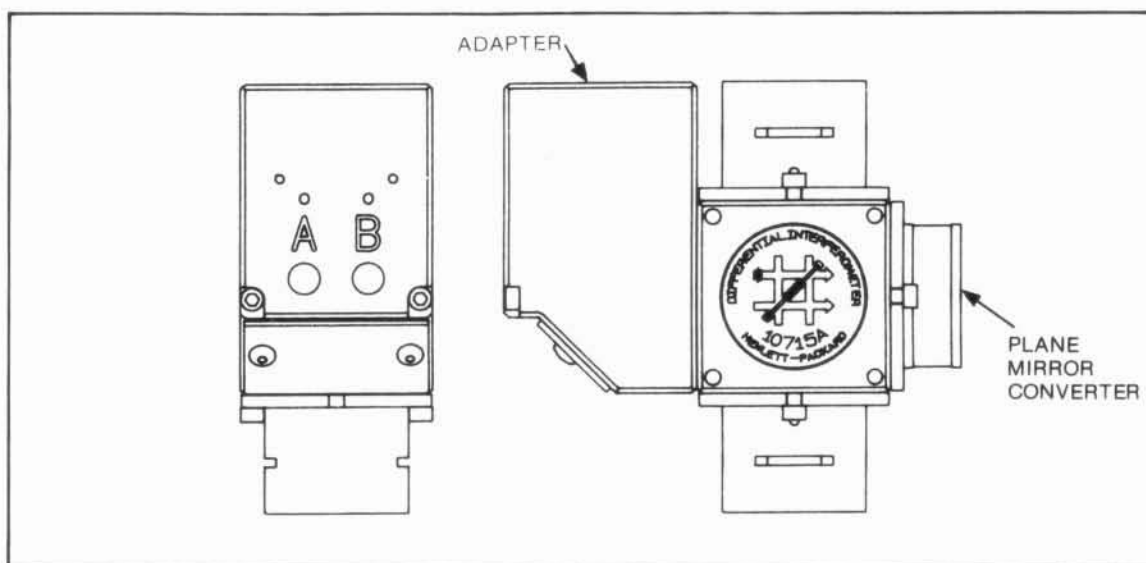

Figure 5-4. HP 10715A Standard Configuration
- STANDARD CONFIGURATION 10715A (Figure 5-4)